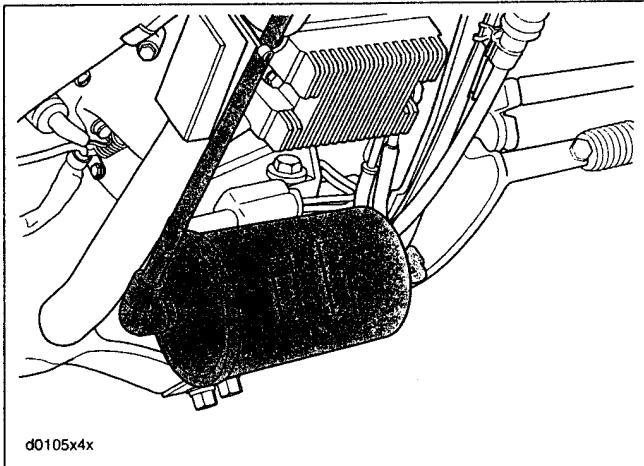

Figure 4-18. Charcoal Canister Location
See Figure 4-18. The EVAP charcoal canister is mounted between the forward frame downtubes.
1. See Figure 4-18. Slide canister into mounting bracket until canister clicks in place.